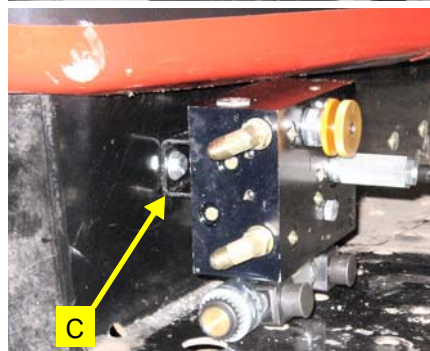

Figure 2c: Mounted Automated Steering Block
- b. Mount the Bracket (C) as shown using the hardware (D). (Figure 2c).
- c. Using the provided mounting hardware in group (E), attach the Automated Steering Block, as prepared in step 1, to the mounting bracket (C).